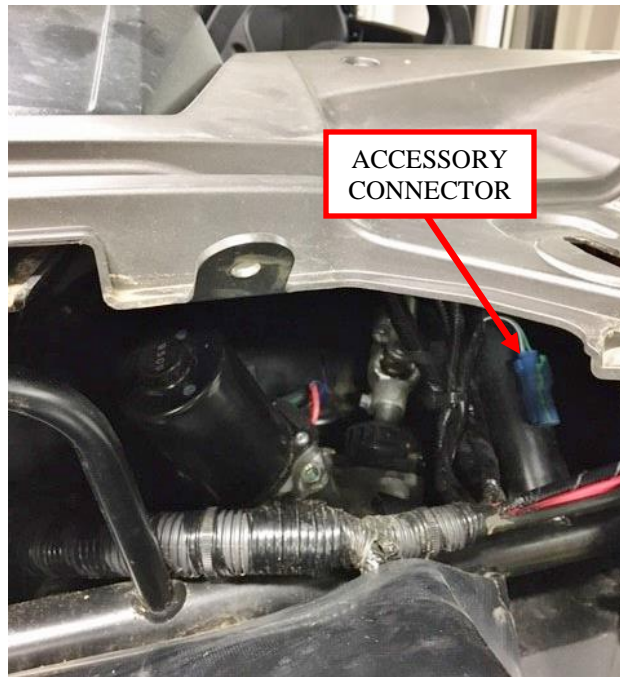

Figure 13: Factory accessory connector location.
11. Under the rear section of the hood, locate the blue factory accessory connector on the frame tube. See Figure 13.